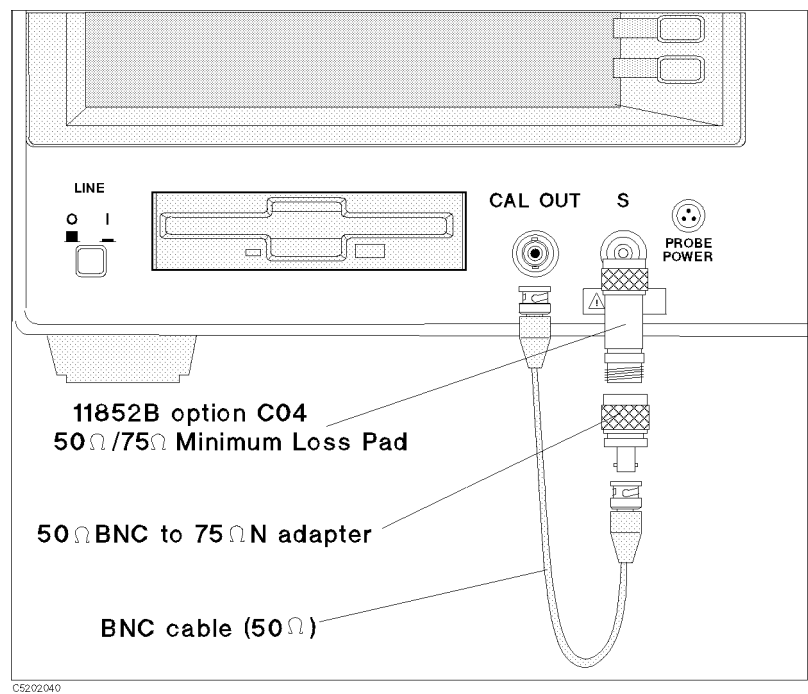

Figure 2-16.
4. Attach the 75 Ω N(m) to 50 Ω BNC(f) adapter to the 11852B option C04 50 Ω (m)/75 Ω (f) minimum loss pad that is connected to the S input. (See Figure 2-16.)